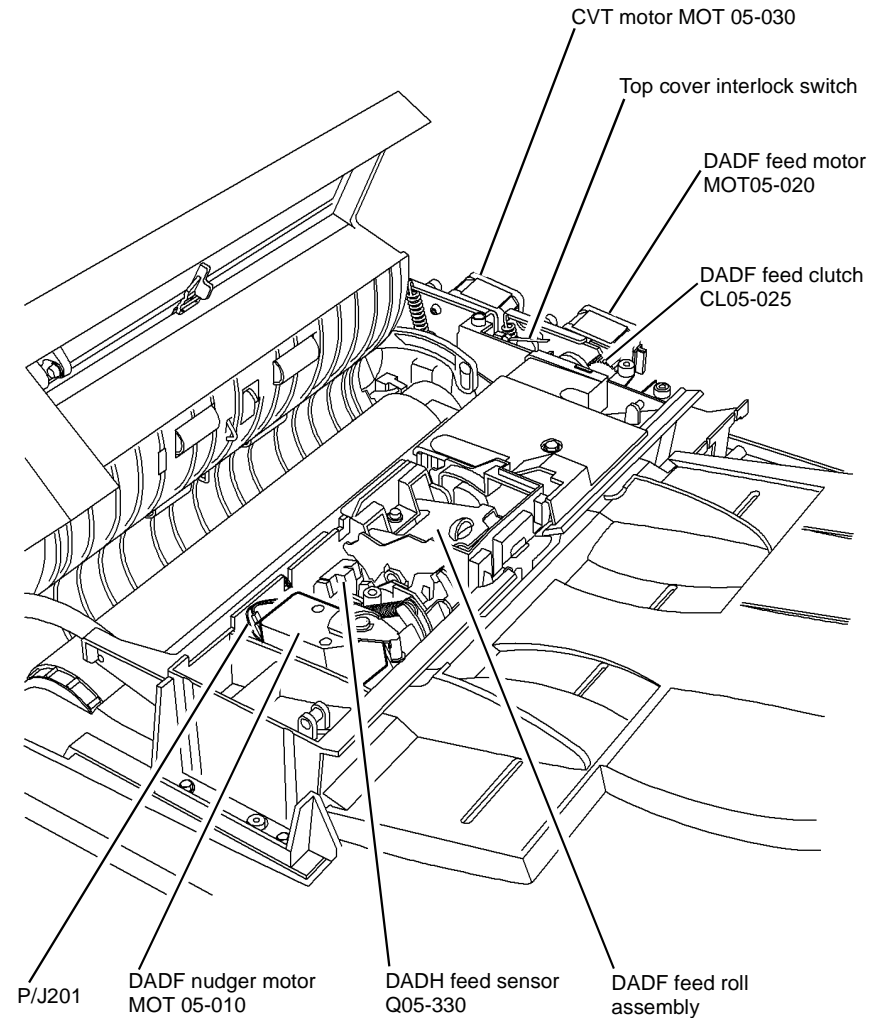

Figure 1 Component location
- Figure 1. Make sure that the takeaway sensor actuator is not damaged. If necessary, install a new takeaway sensor, PL 5.20 Item 11.